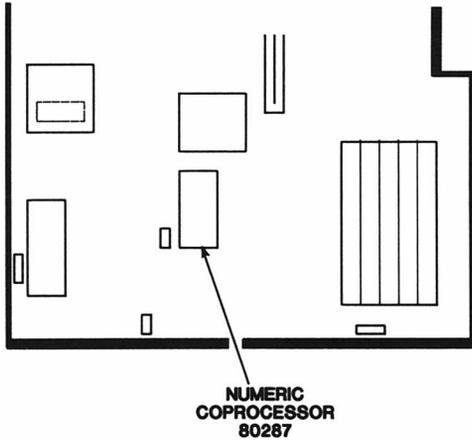

Figure 2-4. 80287 Numeric Coprocessor Socket Location
2. Refer to Figure 2-4 and locate the 80287 numeric coprocessor socket (designated U538).